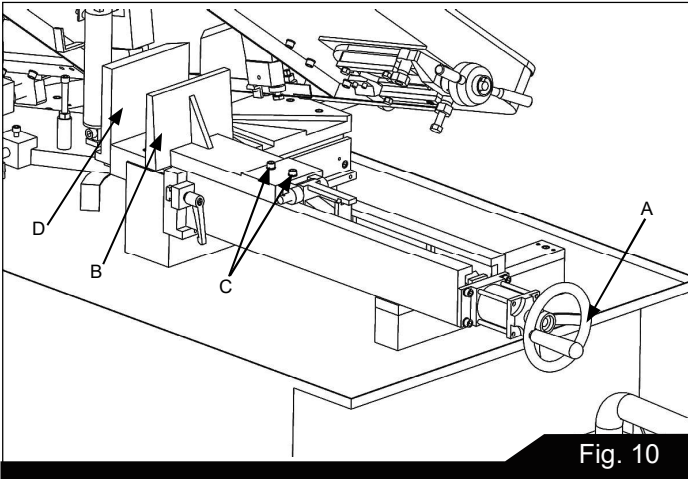

Fig. 10
The workpiece is placed between the vise jaws with the required amount to be cut-off extending out past the blade. To position the moveable vise jaw (B) instantly, simply turn vise handknob (A) Fig. 10, counterclockwise 1/2 turn and move the vise jaw (B) to the desired position. Then tighten vise by turning the knob (A) clockwise. The vise can be adjusted to cut any angle from 0° to 45° by loosening the two bolts (C) Fig. 10, on each vise jaw. Position the vise jaws to the desired angle and tighten the bolts. It is also necessary, when angle cutting, to move the right hand vise jaw (D) to the left until the workpiece and right hand vise jaw clears the right hand guide arm.